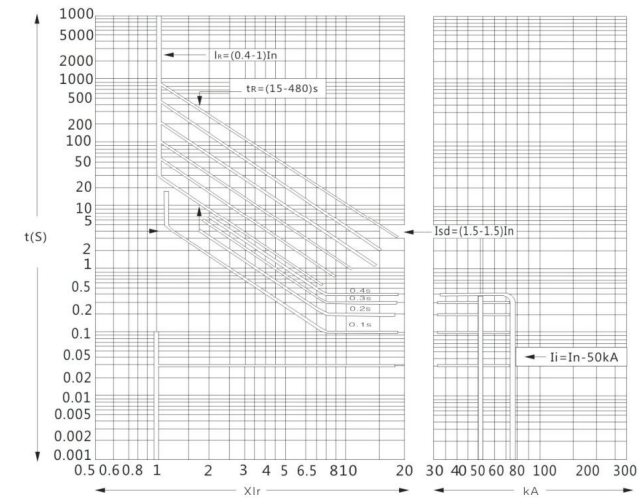
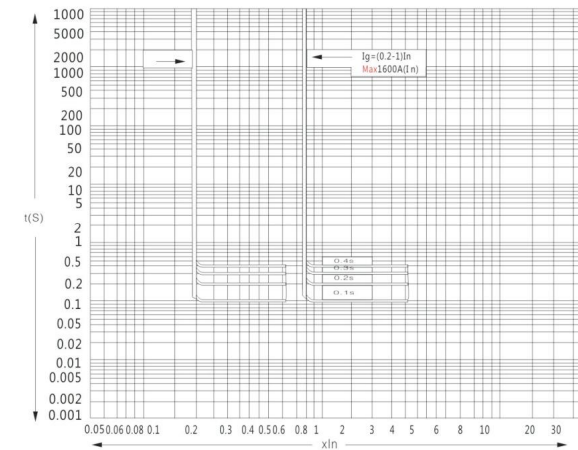

Figure 1 Overcurrent release protection characteristic curve
Figure 2 Ground fault protection characteristic curve
5.1 The characteristic curve of overcurrent release protection is shown in Figure 1, and the characteristic curve of ground fault protection is shown in Figure 2.